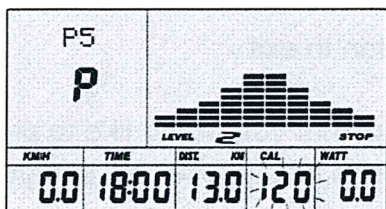

fig 28
E. The calories setting will flash, then press (or rotate) UP, DOWN to set up the desired calories to be consumed. Press ENTER to confirm the value. (See fig 28)